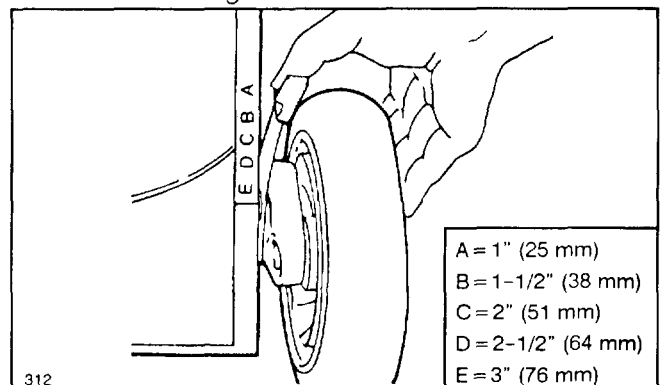

Figure 7
Five letters cast into the housing represent the height-of-cut settings (Fig. 7).
2. For easier adjustment, lift housing up so wheel is off ground. **Do not put fingers under housing when lifting.** Squeeze adjusting lever toward wheel and move to desired setting (Fig. 7). Ensure pin on adjusting lever locks into notch in housing. Adjust all wheels to the same setting.